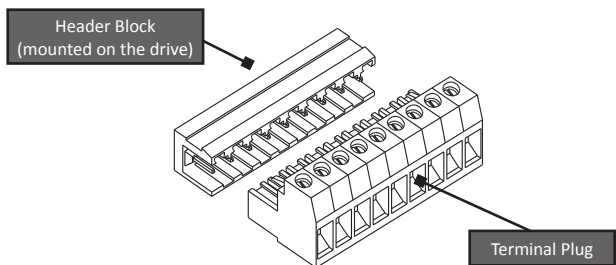
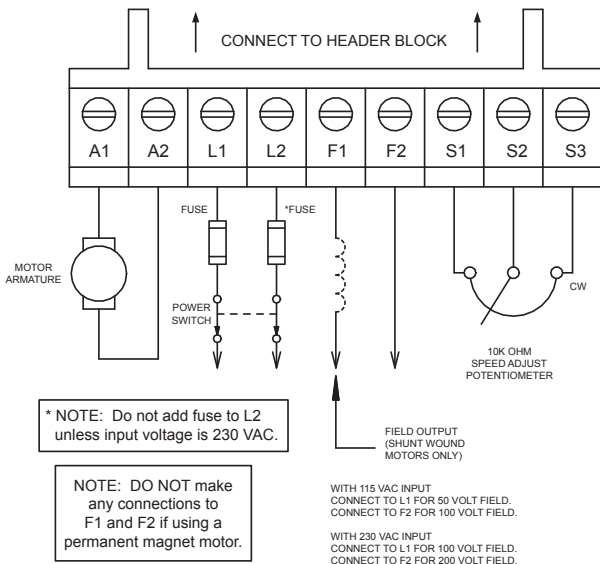

Figure 9. Quick-Disconnect Terminal Block
Figure 12. MM23001C-Q and MM23011C-Q Connections
**Minarik Drives strongly recommends the installation of a master power switch in the voltage input line, as shown in Figure 9 (page 21).** The switch contacts should be rated at a minimum of 200% of motor nameplate current and 250 volts. This power switch is provided with NEMA 1 and NEMA 4X models.
The quick-disconnect terminal block, found only on -Q drives, is composed of a 9-pin header block and 9-screw terminal plug (Figure 9 on page 20). Refer to Figure 12 on page 26 for connection diagram. To use the quick-disconnect terminal block: